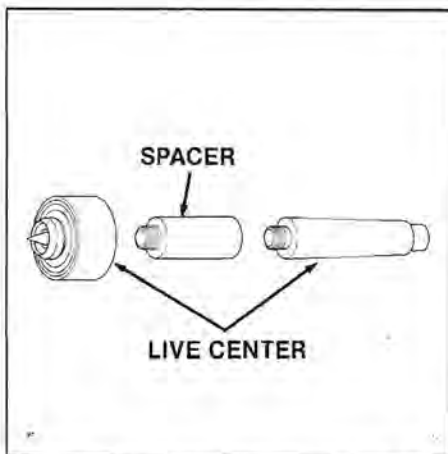

Figure 2. The spacer extends the length of the live center assembly.
- A spacer is supplied with your Lathe Duplicator to extend the length of the live center assembly for turning the full length of the workpieces and turning short spindles. (See Figure 2.) If the live center assembly is difficult to separate, hold the reduced diameter end of the shaft in a vise and grasp the head with adjustable jaw pliers. Pad the jaws of both the vise and pliers to avoid marring the live center.